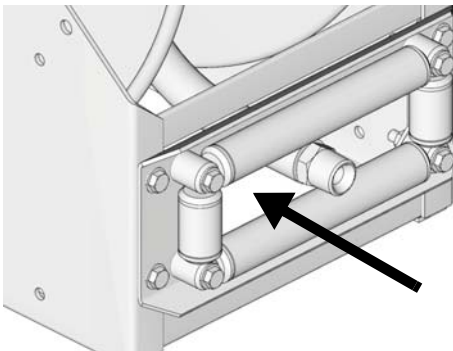

FIG. 79
5. Feed the loose end of the hose through the hose rollers and manually wrap and secure the hose onto the reel spool (FIG. 79).